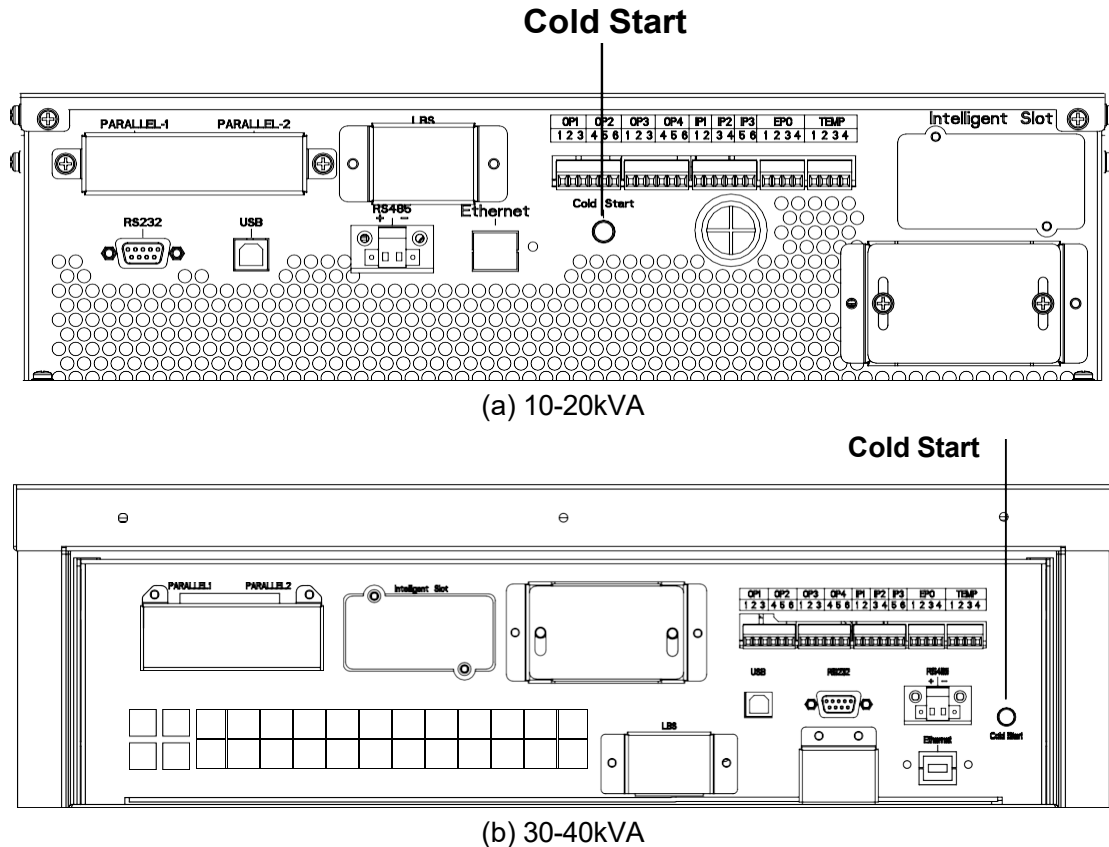

Figure 5-1 Position of the battery cold start button
- (1) Confirm the batteries are correctly connected, and then close the output circuit breaker and external or internal battery circuit breakers.
- (2) Press and hold the red button of battery, as shown in Figure 5-1, battery supply power to UPS.